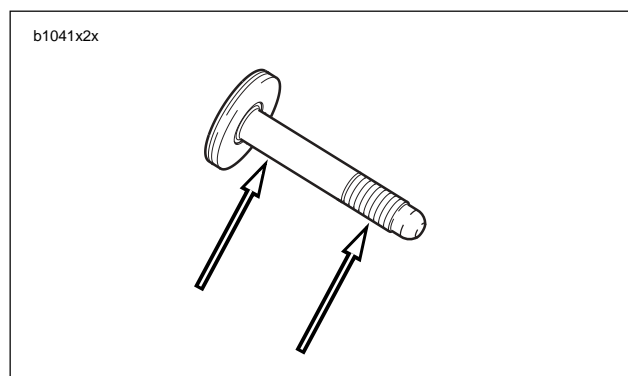

Figure 2-81. Lubrication Points on Front Isolator Bolt
2. See Figure 2-81. Lubricate front isolator bolt with ANTI-SEIZE and loosely install.